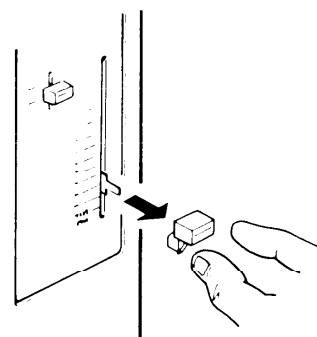

Fig. 36
- Pull off the thermostat knob. Fig. 36